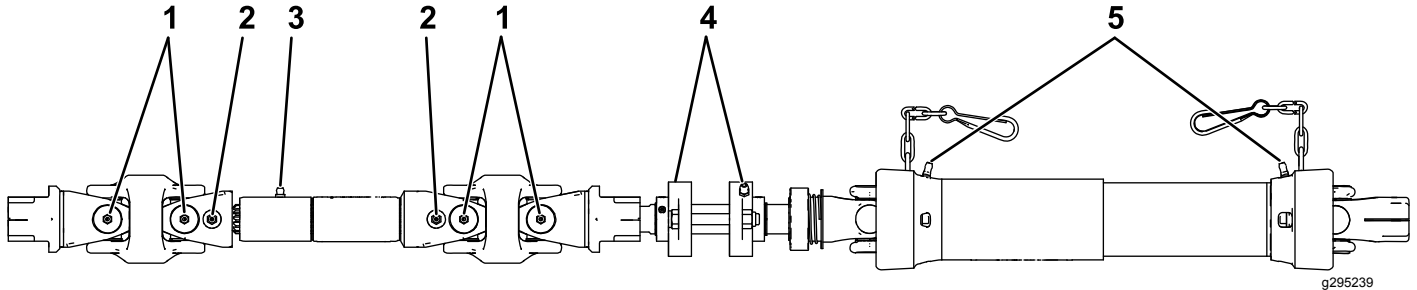

Figure 13
2. There are 11 outer grease points; refer to the mount kit service decal or Figure 13.